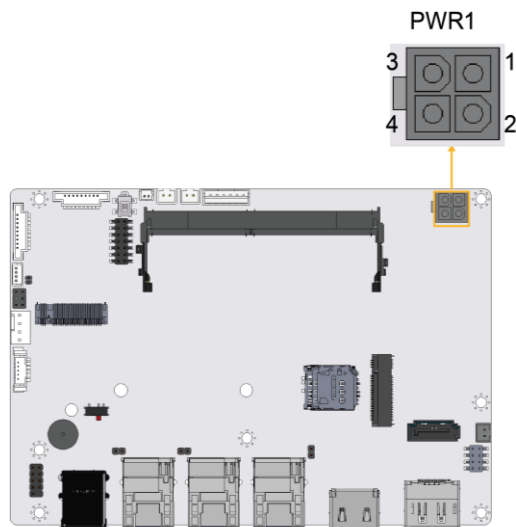

Figure 4-2: ATX 12V Power Connector Location
- CN Location:** See **Figure 4-2**